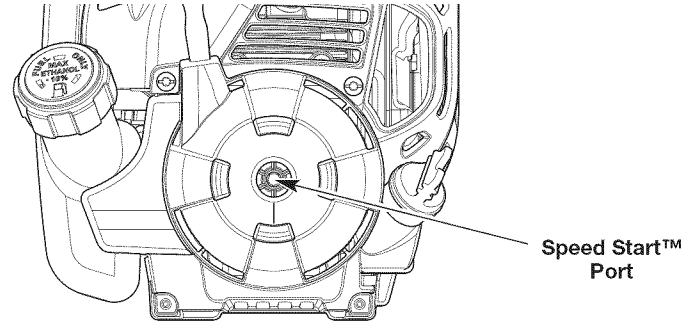

Fig. 13
6. Insert the Speed Start™ accessory into the Speed Start™ port (Fig. 13). Refer to the *Operation* section of the Speed Start™ accessory operator's manual.